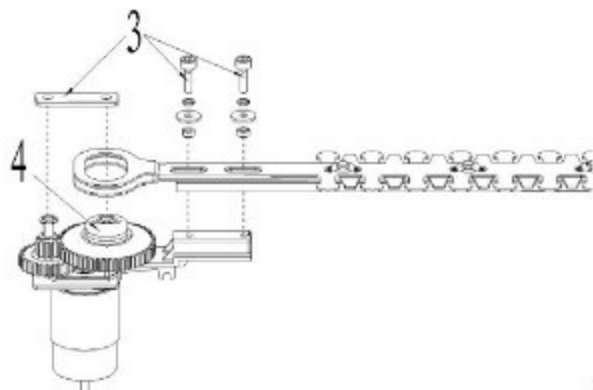

Fig.26
Step 3: Remove the screws and Orientation board (3) (See Fig.26), and then rotate the Cam flake 4 to the correct location parallel with the blade slot. Now you can remove the blades.